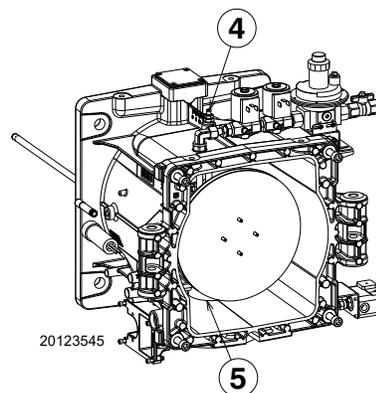

Fig. 17
- F release the gas distributor from the seat 5)(Fig. 17) and remove it.